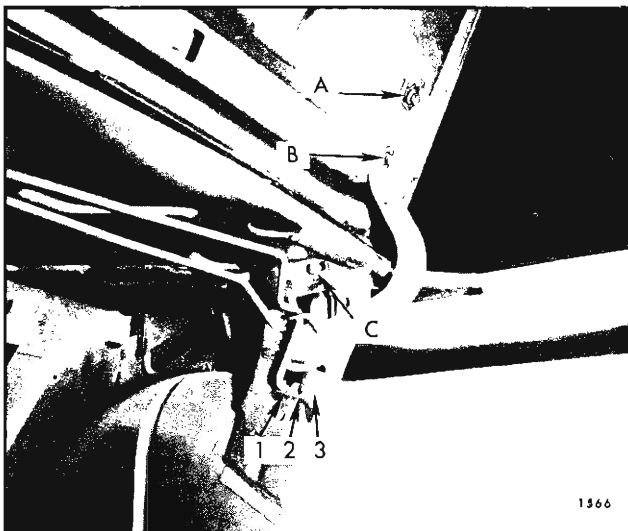

Fig. 2F8—Rear Compartment Lid Hinge and Torque Rod Attachment
3. With aid of a helper, remove lid attaching bolts "A" and "B" (Fig. 2F8) and remove rear compartment lid.